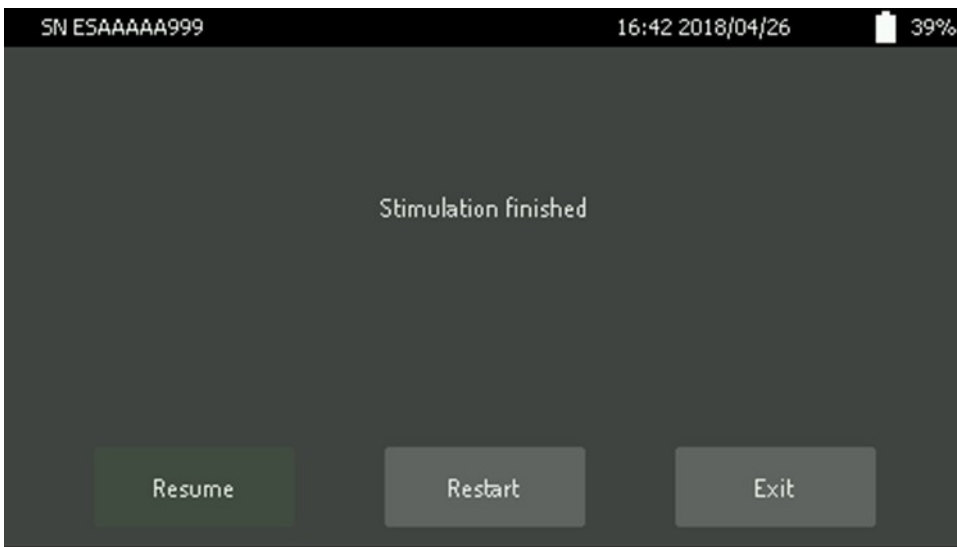

Figure 72. Screen showing that stimulation has finished without errors.
After a successful stimulation dose, the exit screen is shown with a message confirming the end of stimulation (Figure 72).
- the programmed stimulation was successful (Figure 72),